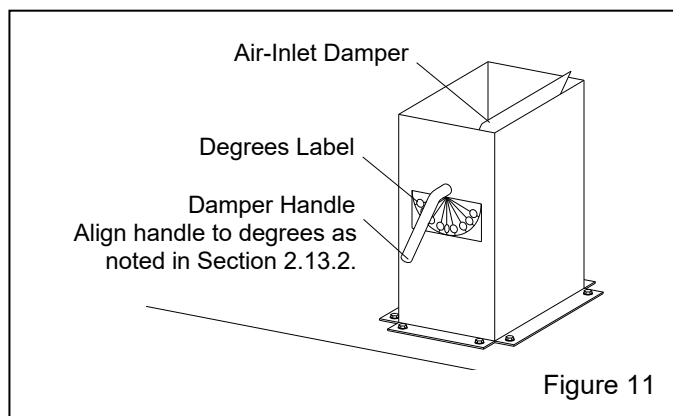

Figure 11
2.13 Set Air-Inlet Dampers – Refer to Figure 11